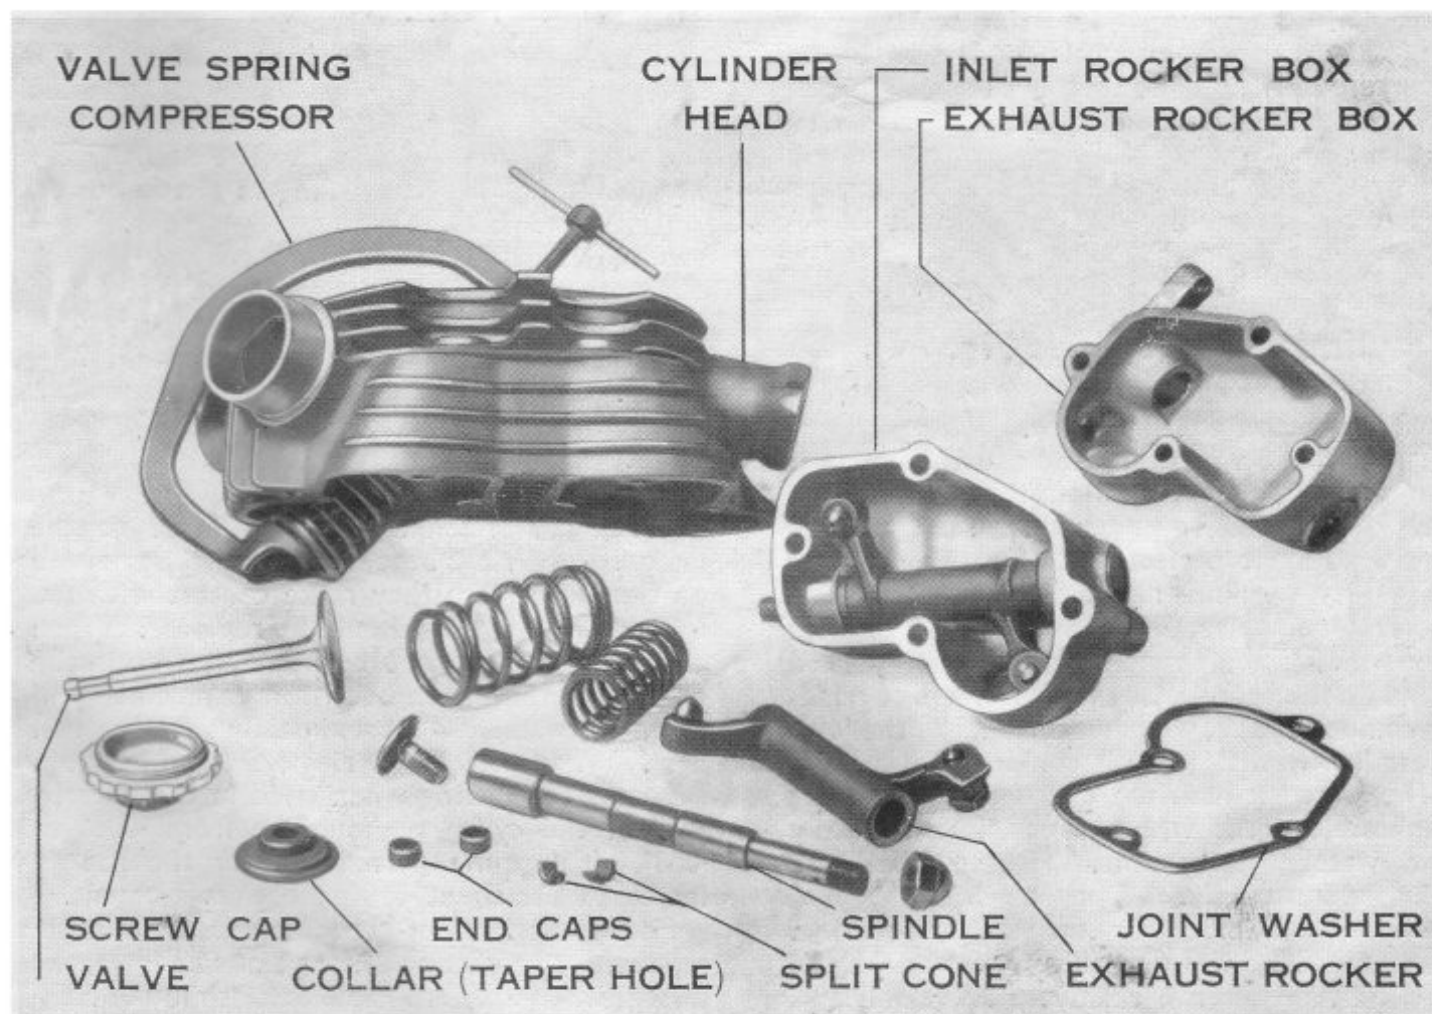

Fig. B2. Method of Removing Valves and view of Rocker Box.
1. Rocker Assembly (See Figs. B2 & 4).
The valves are held by taper cotters and collars and the springs are easily removed by means of a valve spring compressing tool of the type illustrated (Fig. B2). The method of use is to place the forked end on the valve spring collar, and the pointed end of the screw in the centre of the valve head. Then screw up until the spring is compressed sufficiently to enable the split cotters to be removed.